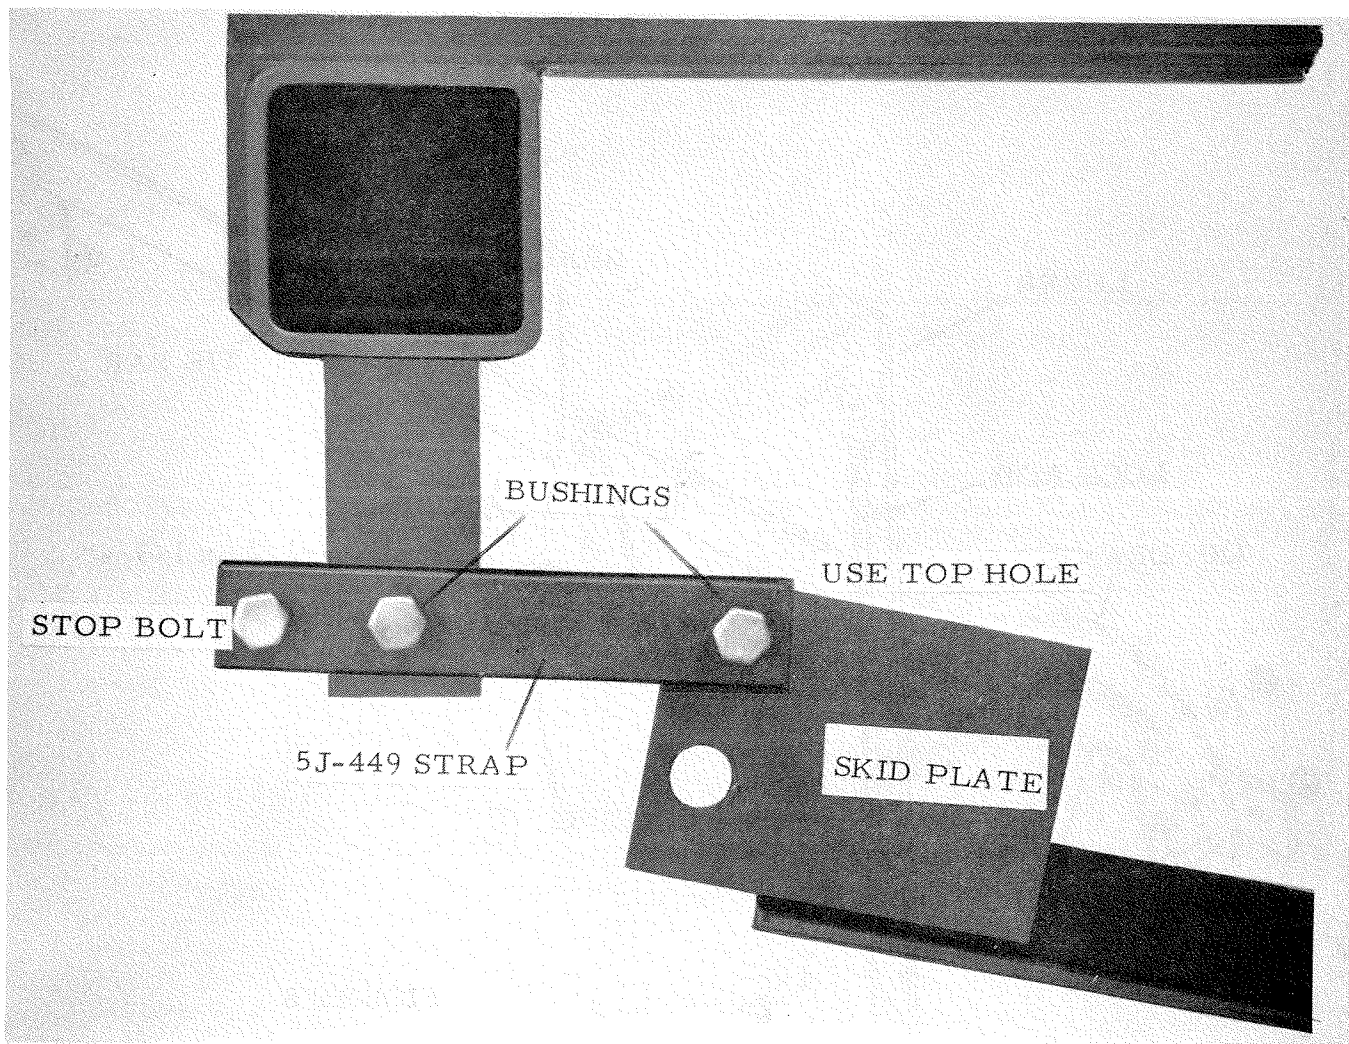

FIGURE 9
- 4) Page 15, Item 9 & Page 14, Figure 9: When attaching the 5J-449 straps to the skids, use the lower hole in the skid plate. 2 holes are provided in the angles on the underside of the front frame tubes. If the top hole is used, attach the straps as shown in the sketch below.